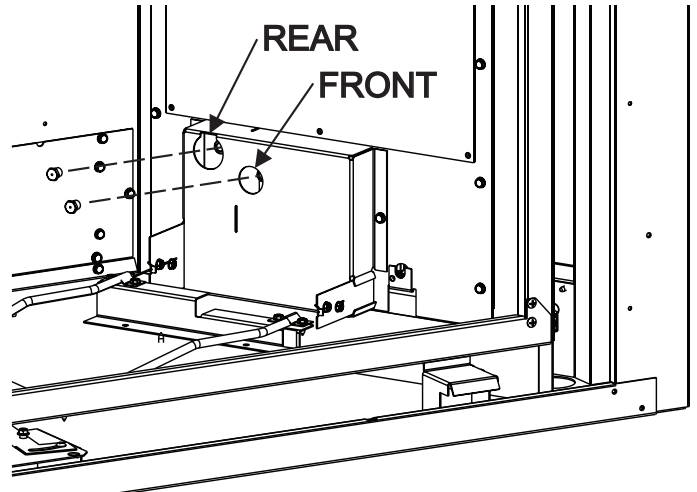

Figure 5
6. Use a 7/16 inch deep socket set to remove orifices. **See Figure 5.**